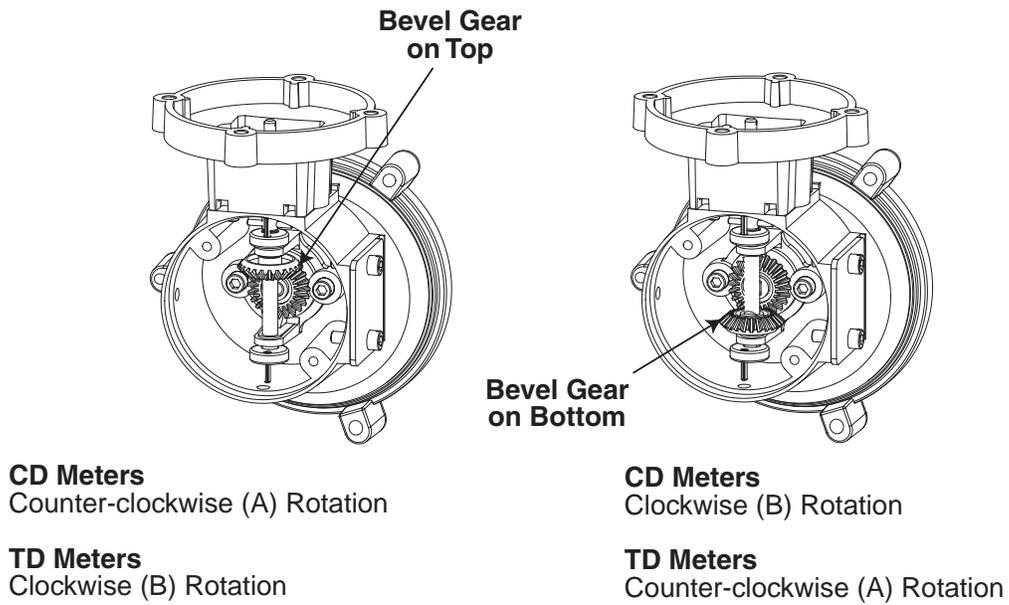

Figure 18 - Placement of bevel gears determines rotational direction.
3. Rotate the modular drive assembly 180° to obtain the proper Drive Dog rotation (refer to Figure 18). Making sure the O-ring behind modular assembly remains in place, re-install the modular gear assembly in the vertical position. Torque the screws to 5 in.-lb.